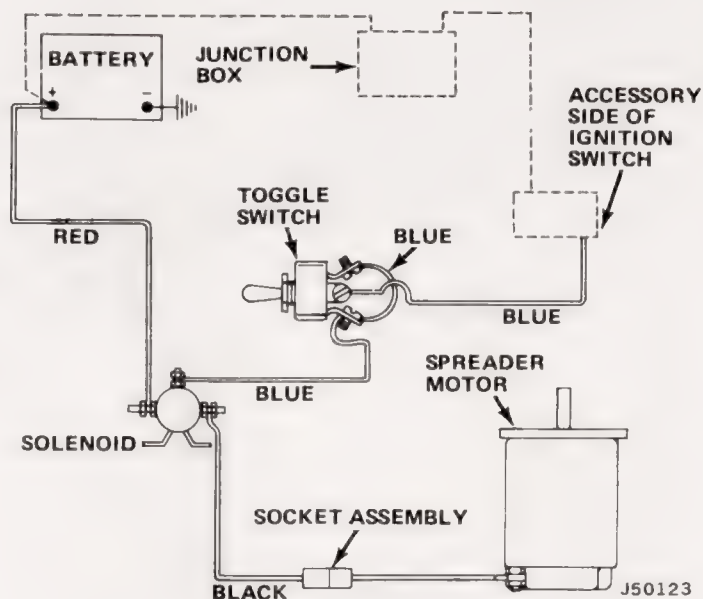

Fig. 4-7 Installation of Electrical Components
(1) Connect one end of red wire to positive side of battery, and other end to side terminal of motor solenoid (fig. 4-7).
(2) Connect ends of blue jumper wire to outside terminals of toggle switch.
- (1) Shut off power by disconnecting plug from socket assembly (fig. 4-7 and 4-8).
(1) Shut off power by disconnecting plug from socket assembly (fig. 4-7 and 4-8).